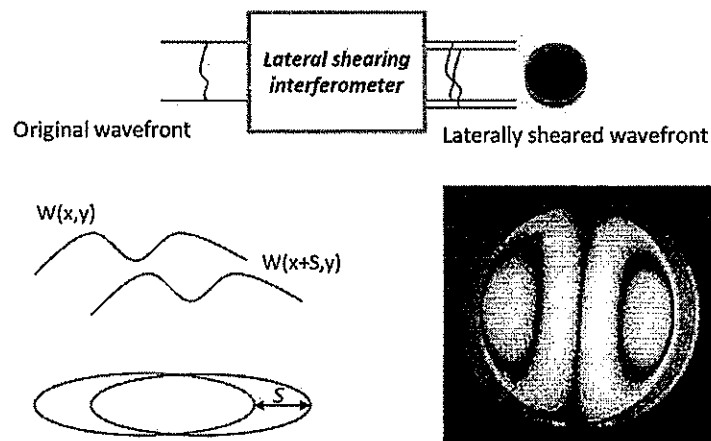

Figure 3: Lateral shearing interferometer: principle & interferogram
- (c) Figure 3 shows schematically the basic principle and an interferogram of a lateral shearing interferometer. Explain the principle of the lateral shearing interferometer. Also explain why it works well for testing industrial optical elements with large deformation or curvature.
Figure 3 appears in page 4.